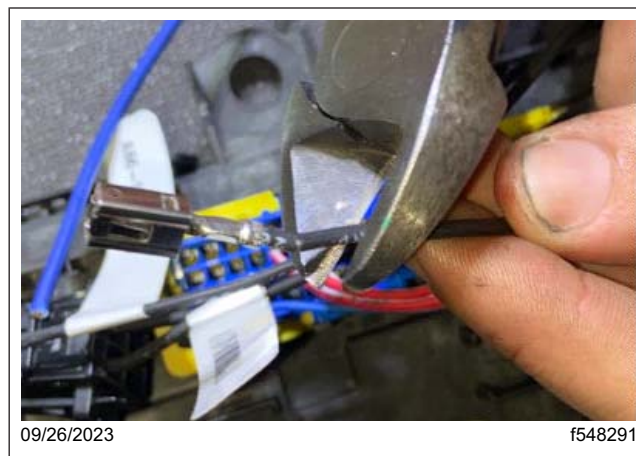

Fig. 23, Cutting off the Terminal
- 9.7 On the wire that was removed from cavity 1 of the SSAM X10 connector in substep 9.4, cut the terminal off and strip the wire. See Fig. 23.